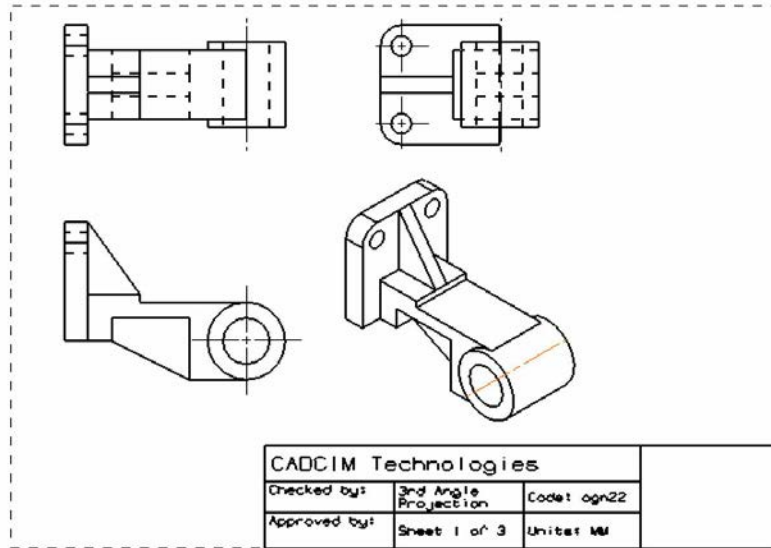

Figure 12-56 The drawing sheet after creating the drawing views and the tabular note
- Add a tabular note to the drawing sheet, refer to Figure 12-56.
1. Choose the **Tabular Note** tool from the **Table** group of the **Home** tab; the **Tabular Note** dialog box is displayed and the floating tabular note is attached to the cursor. Position the tabular note on the drawing sheet and then choose the **Close** button from the **Tabular Note** dialog box, refer to Figure 12-56.
5. Merge the cells of the first three rows and modify its height to 16, refer to Figure 12-56. Next, you need to enter the text in the cells, refer to Figure 12-56.
8. Choose the **Lettering** node, enter 5 in the **Height** edit box, and then press ENTER to reflect the changes. The resulting drawing sheet after creating the tabular note is shown in Figure 12-56.